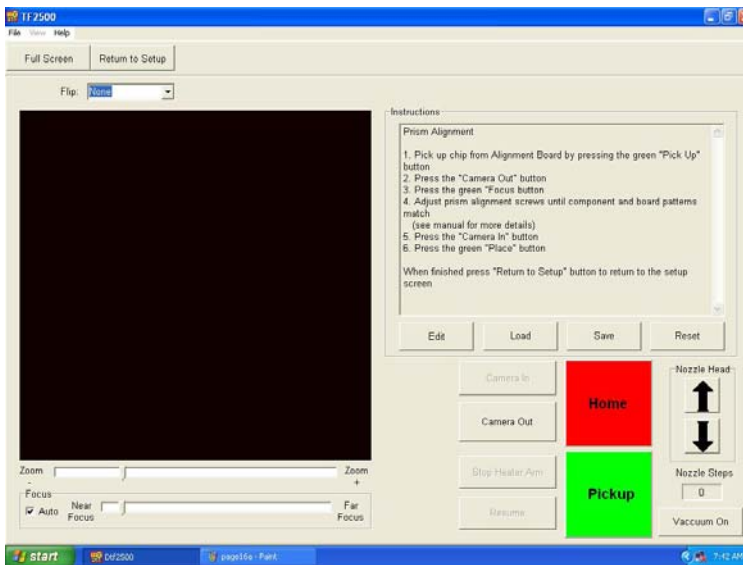

Figure 10
- iii. Monitor now shows calibration screen. (Figure 10)